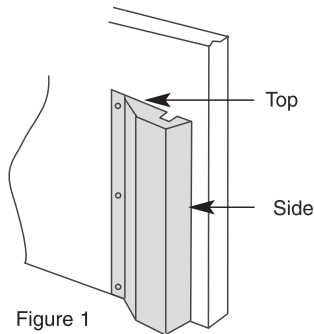

Figure 1
Step 1. (Figure 1) Hold the latch guard cover in place and mark the outside edge, both top and side, for reference during installation of the latch guard bracket.